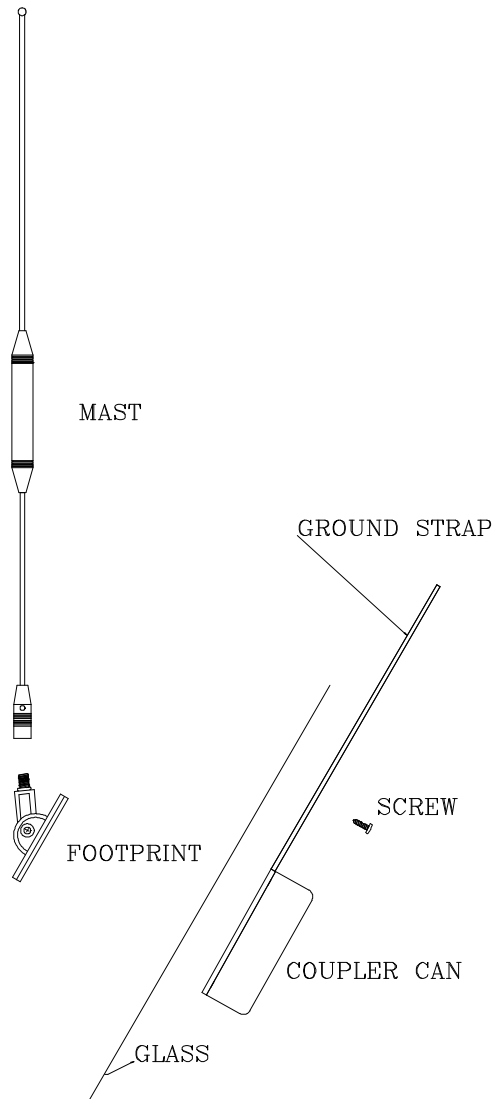

Figure 4 – General Assembly
4. Clean the outside of the window with the same alcohol pad. Open packet of silane glass treatment and wipe glass to ensure complete coverage. Wipe dry with clean cloth. Remove the adhesive backing on foot and place over the center of the coupler can (Refer to Figure 4 – General Assembly).